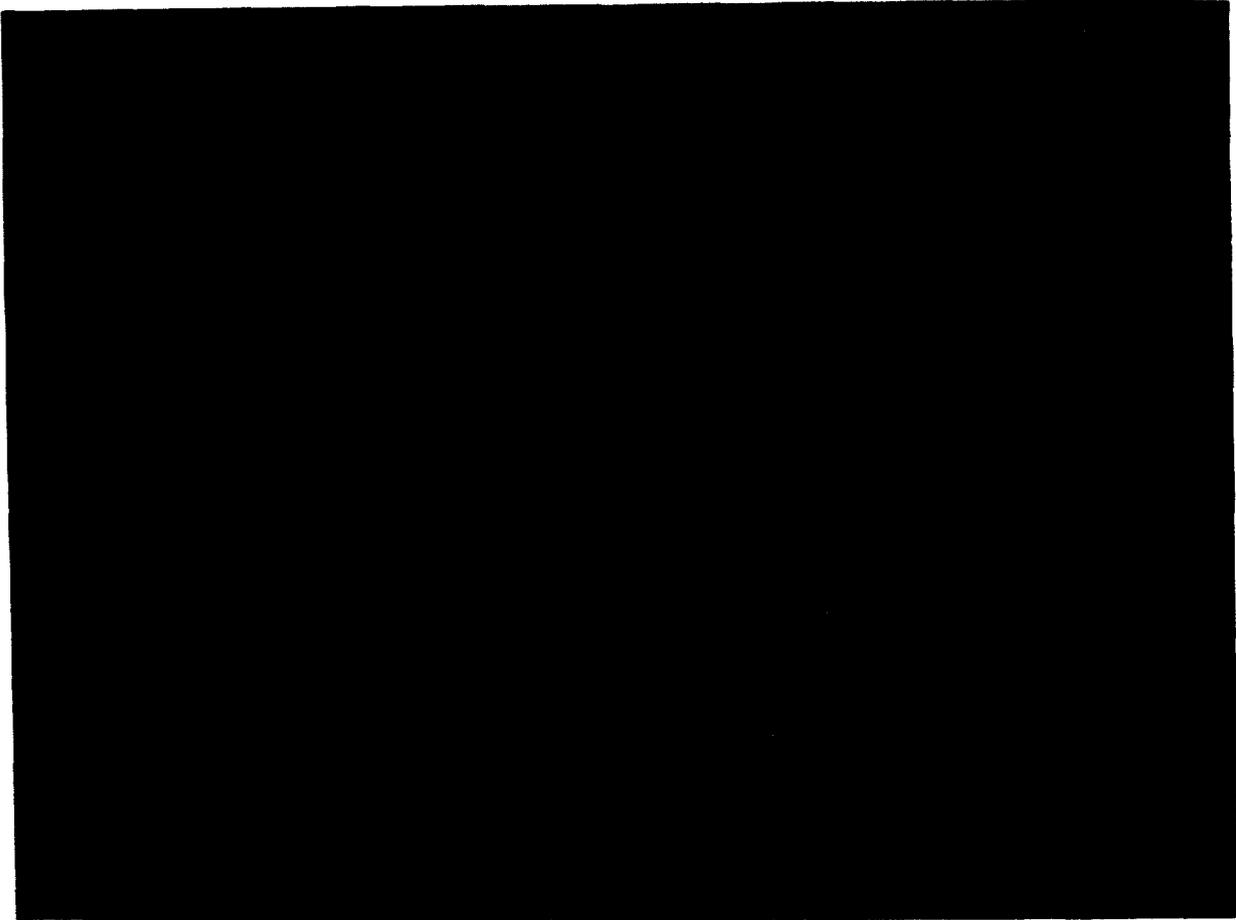

Figure 2-26. Fire control quadrant M1A1 on chronograph.
- b. Place fire control quadrant M1A1 on telescope mount (fig. 2-26).